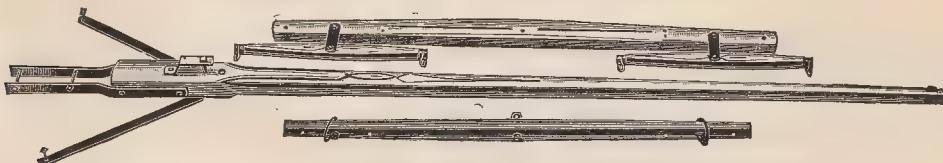

Fig. 210
Tongue Attachment, as shown in Fig. 210
**Tongue Attachment, Fig. 210.**—We show this as an attachment, as we find some desire both shafts and tongue. We, however, furnish our Sprayer equipped with tongue, known as No. 103, in which form we especially recommend it for hilly sections, and also for greater steadiness in operation. It is likewise a necessity for three row spraying.